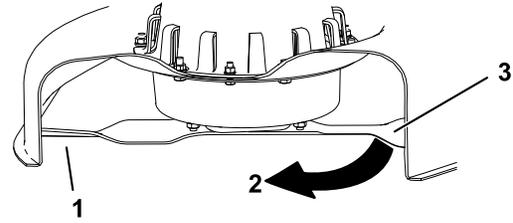

Figure 33
4. Rotate the same blade 180 degrees so that the opposing cutting edge is now in the same position (Figure 33).